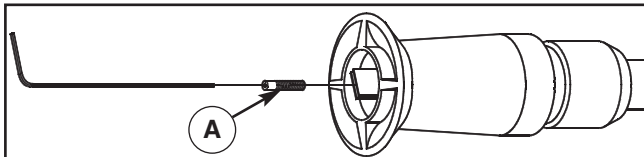

Figure 17: Removing orifice
3. Remove orifice (A) from end of nozzle extension. Separate nozzle extension from spray gun. Twist nozzle clockwise to stream position. Using a 2mm (5/64) allen wrench, remove orifice from end of nozzle extension (Figure 17).